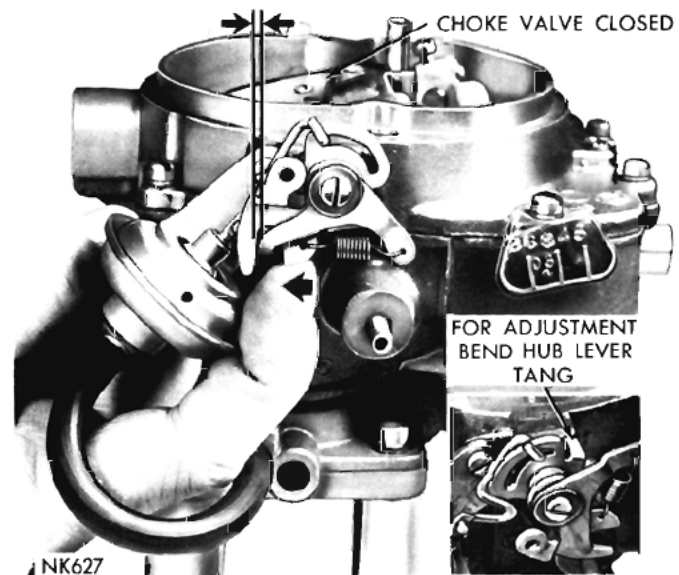

Fig. 17—Spring Staged Choke Adjustment
The new spring staged choke, shown in (Fig. 17) is a device incorporated in the choke mechanism which limits the choke blade closing torque when cranking the engine at temperatures below zero. Thus the
(1) Push on the hub lever with the finger, at the closed choke position. A small opening should exist between the shaft and the hub levers, as shown in (Fig. 17).
(2) Using a drill or gauge, measure the opening. The opening should be from .020 to .030 inches.
(3) If an adjustment is necessary, bend the hub lever tang until the correct opening has been obtained.